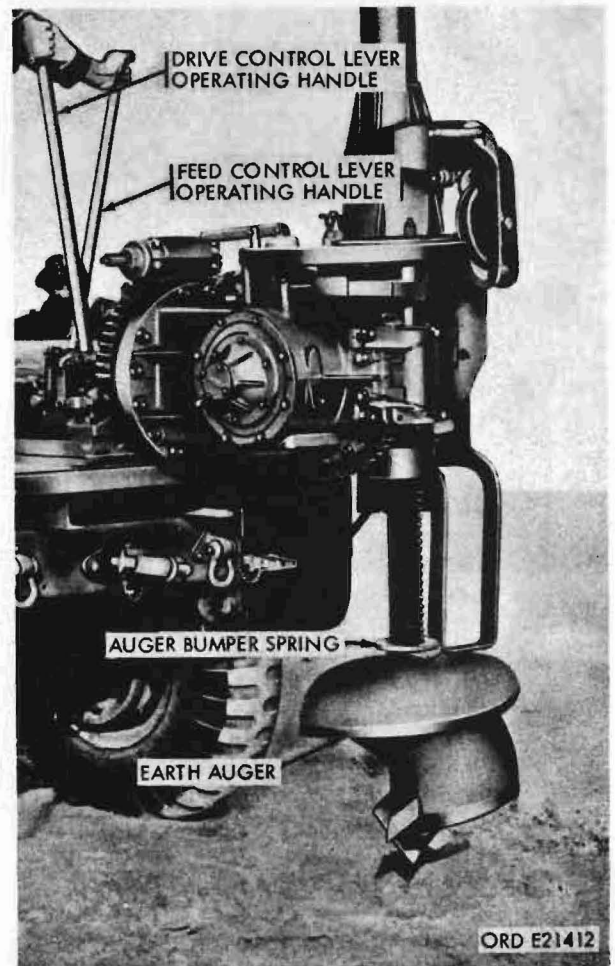

Figure 166. Raising earth auger with load
- (g) Push on the feed handle while pulling on the drive handle to raise the earth auger (fig. 166) from the ground with load.